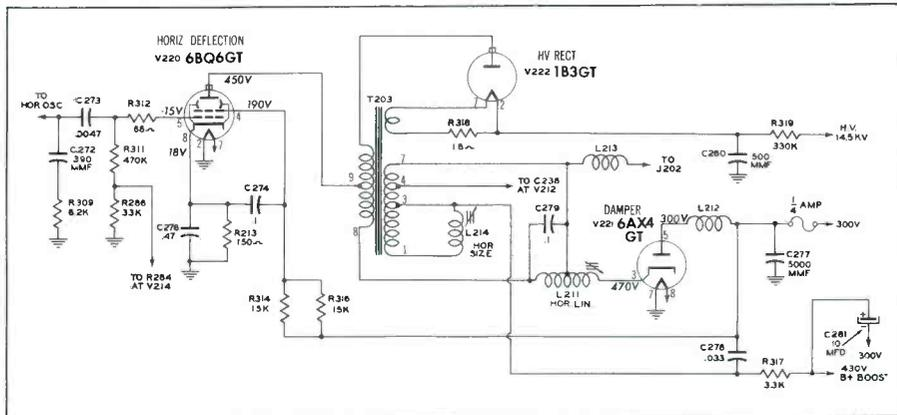

Fig. 3. Horizontal-Output and High-Voltage Circuits in DuMont Model RA-166/171 TV Receivers.
A typical DuMont horizontal-output and high-voltage circuit is shown in Fig. 3. The entire section should be considered because the three functions it performs are all interrelated. It produces the required deflection current in the horizontal-deflection coils, it develops the boost B+, and it provides the high voltage needed by the picture tube.
Another common trouble discussed in the DuMont Service News is blooming. This condition is attributable to poor high-voltage regulation. The chief offender in cases of poor regulation is the high-voltage rectifier. Another possible weak link is a misadjusted linearity coil. In the circuit of Fig. 3, satis-
Fig. 4. Waveforms at Grid of Horizontal-Output Amplifier Shown in Fig. 3. (A) Normal. (B) Oscillator Inoperative or Open Coupling Capacitor C273. (C) Open Saw-Tooth Capacitor C272.